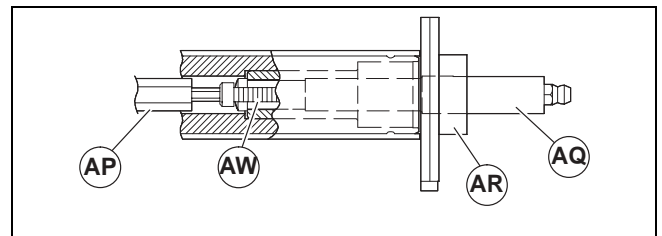

Figure 29
- Insert small end of hex key wrench extension tool (Figure 29, item AP) into pulley end opposite the outboard drive shaft (AQ) and tighten pulley screw (AW) to 20 in/lb. Back off screw exactly 1/2 turn (180°).